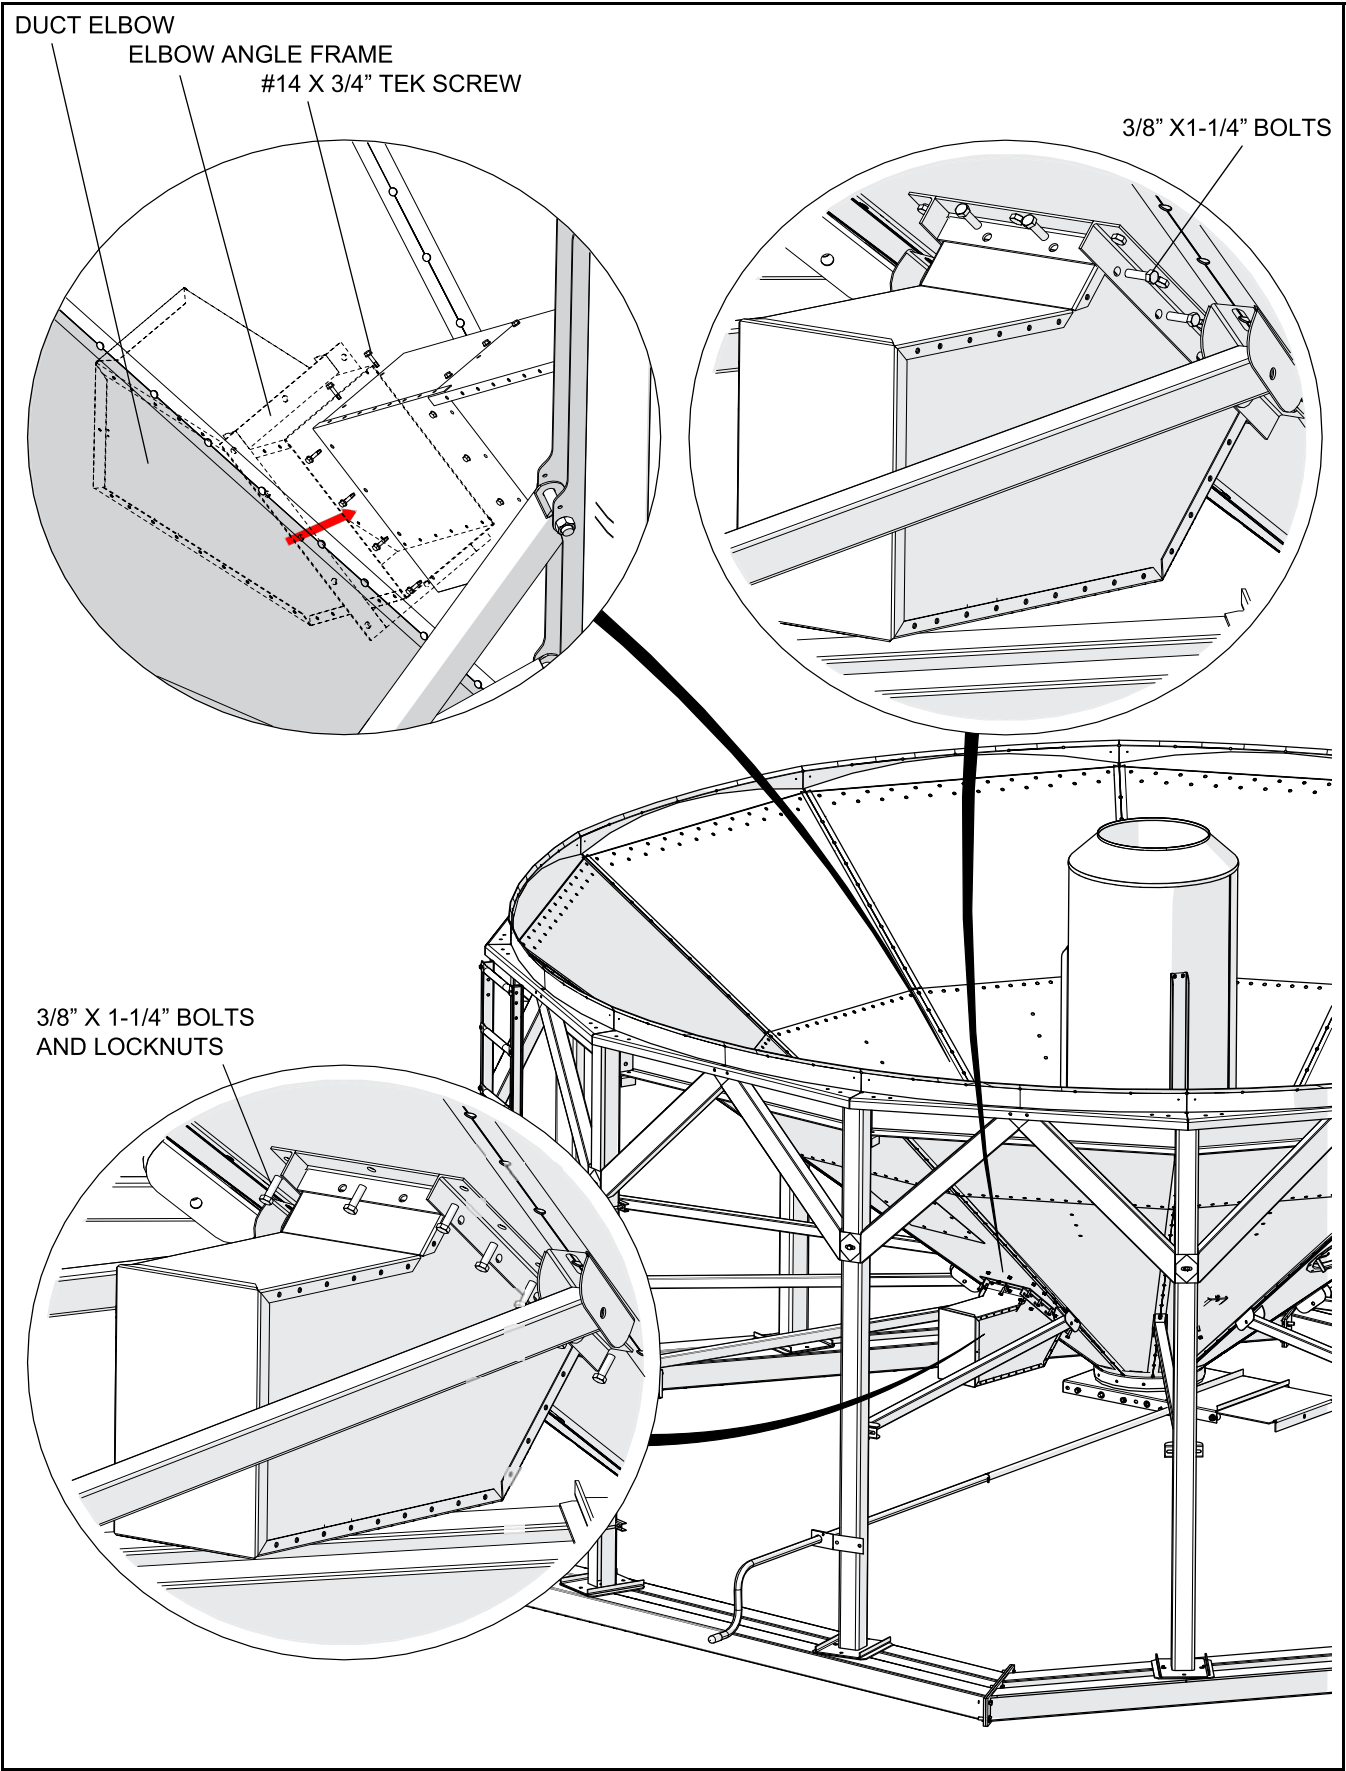

Figure 3.4
9. Install duct elbow as follows (see Figure 3.4):
- f. Fasten elbow angle frame to hopper cone (at 12 places) and to elbow (at 12 places) with 3/8" x 1-1/4" bolts, flatwashers/lockwashers and nuts, as shown in Figure 3.4.
10. Ensure that 17" straight duct is aligned over duct elbow. Fasten 17" straight duct to duct elbow using twelve #14 x 3/4" tek screws as shown in Figure 3.4. Use 4 screws on each side and 2 screws on both the top and the bottom of the duct.